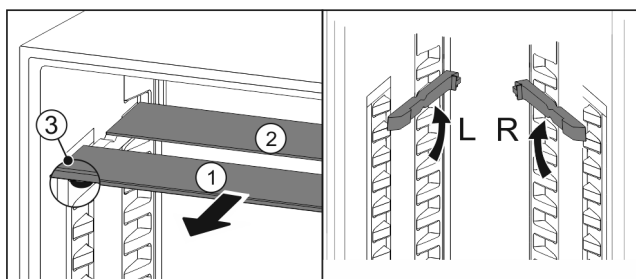

Fig. 87
- Pull the glass panels out Fig. 87 (1) from the front, one at a time.
- The glass panel Fig. 87 (1) and trim strip are at the front.
- The stops Fig. 87 (3) point down.